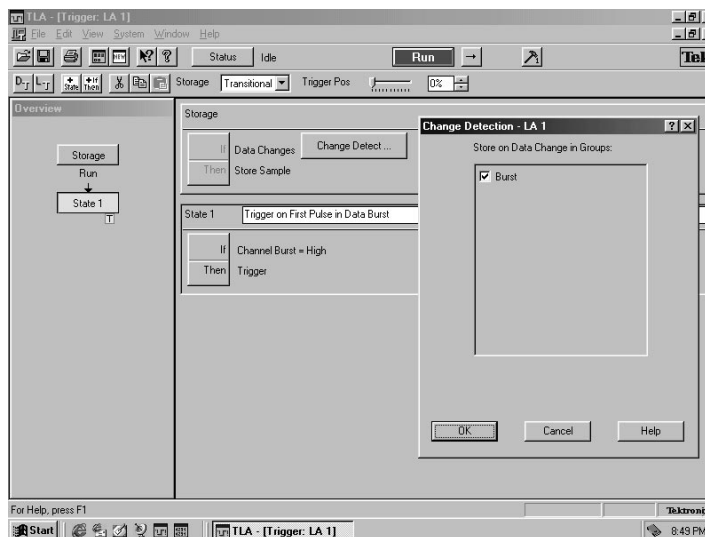

Figure 2–24: Trigger window using transitional storage for Exercise 5
3. Go to the Trigger window. It should look similar to Figure 2–24.